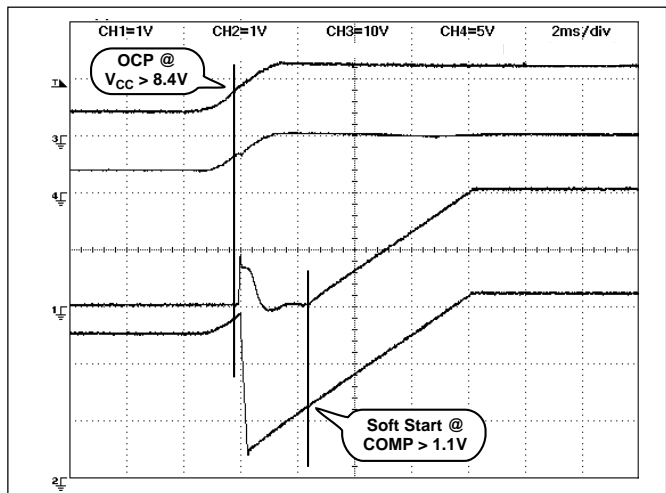

Figure 10: Startup with COMP pre-charged to 2V (2ms/div).
If the voltage across the Current Sense resistor generates a voltage difference between the  $V_{FB}$  and  $V_{OUT}$  pins that exceeds the OVC Comparator Offset Voltage (86mV typical), the Fault latch is set. This causes the COMP pin to be quickly discharged, turning off GATE(H) and the upper NFET since the voltage on the COMP pin is now less than the 1.1V PWM comparator offset. The Fault latch is reset when the voltage on the COMP pin decreases below the Discharge threshold voltage (0.25V typical). The COMP capacitor will again begin to charge, and when it exceeds the 1.1V PWM comparator offset, the regulator output will Soft Start normally (see Figure 10).